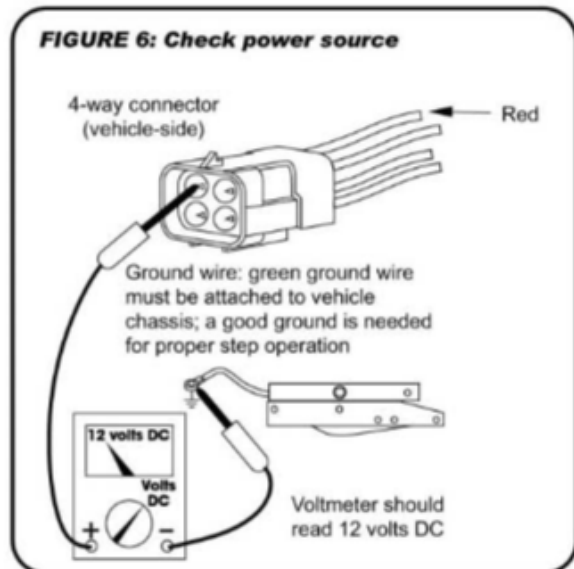

FIGURE 7: Check power switch
2. To check the power switch, connect a voltmeter between the white wire from the 4-way connector (vehicle half) and the terminal at the end of the control unit's green ground wire (see **Figure 7**). The reading should be a minimum of 12 volts DC (the same as in Step 1) when the switch is on, and zero (0) volts DC when the switch is off.